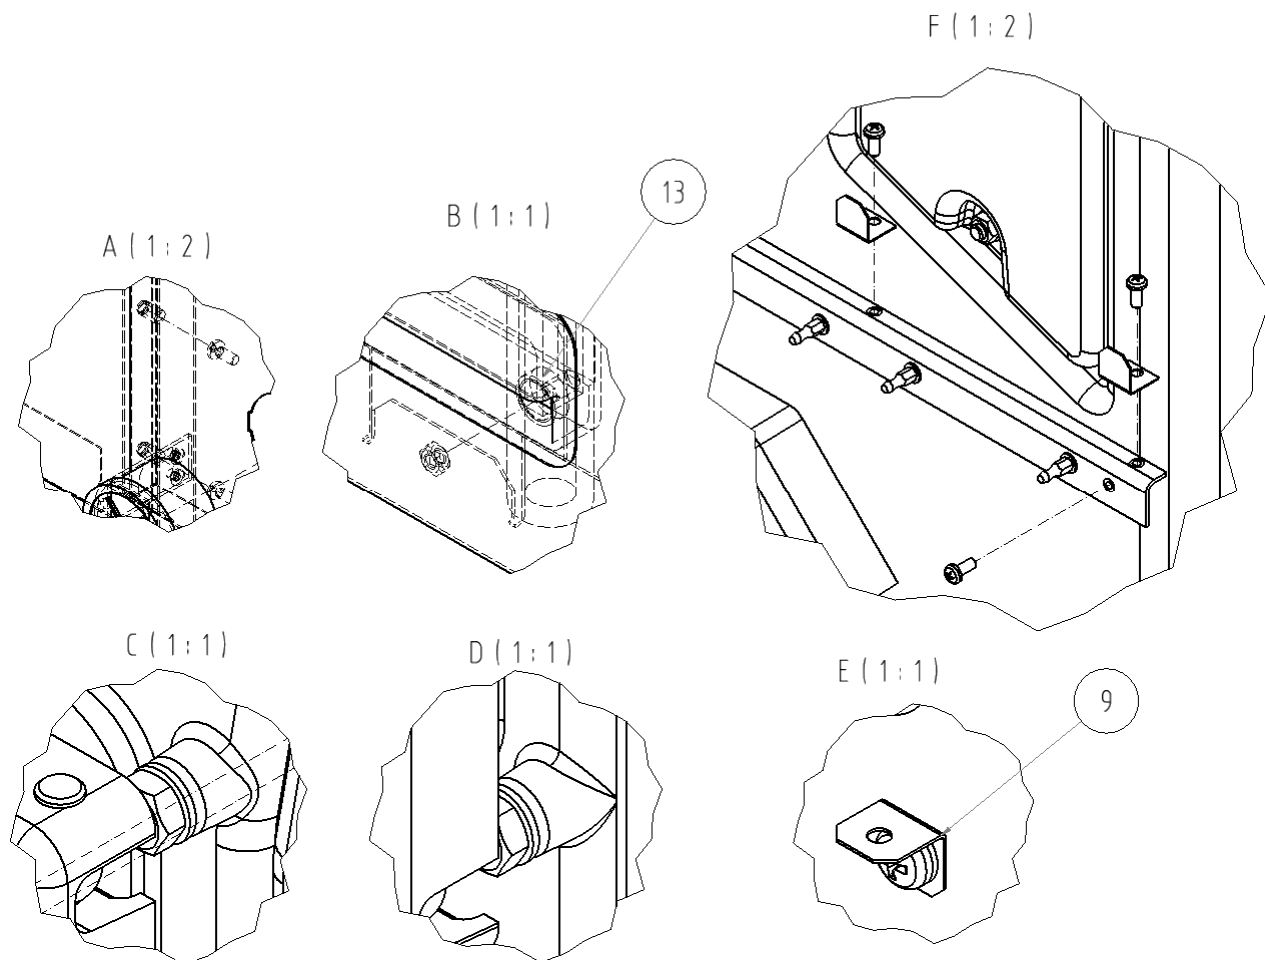

Fig. no. 7 The boiler sheathing
3. According to the Fig. no. 7 – to cover the boiler.